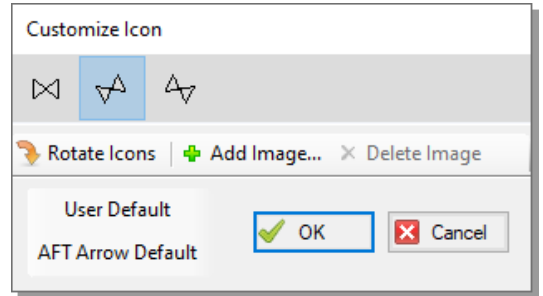

Figure 3.18 Right click on the junction to open the **Customize Icon** window and select the preferred settings
5. You will notice that placing junctions onto the Workspace follows the usual rules, however, the visual appearance of the icons can be more complex than on a 2D grid. Due to the increased number of axes, the preferred icon and rotation can be selected to obtain visual consistency. Right-click on J7 and select Customize Icon. Select the icon shown in Figure 3.18.